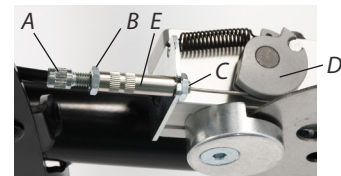
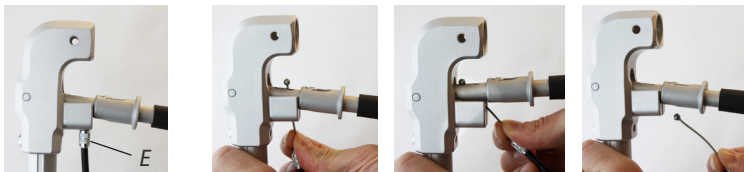
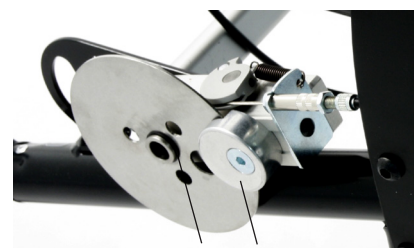
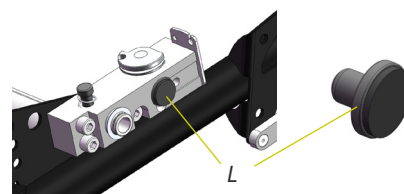

Fig 13
Fig 14
Fig 16
Fig 17
The disc brake system (fig 12) consists of a disc (fig 16) that attaches to the drive wheel. A caliper (J, fig 16) pushes against the disc when activated by a brake piston (L, fig 17). This is controlled by a lever (fig 14) via a cable that is attached to a turntable (D, fig 13) which moves the piston. The cable is of fixed length with nipple connections at both ends.
The brakes are adjusted by moving the cap (A, fig 13). Loosen the nut (B) and screw the sleeve out for more braking force, in for less braking force. Tighten the nut (B) after the adjustment. **NOTE!** Handle sleeve (E) with care! **NOTE!** The brakes must always be adjusted such that the braking force is correct with the braking levers in the parking position. Verify!
1. Remove the wheel and completely unscrew the wire length adjustment cap (A).
2. Remove the sleeve from the plate by unscrewing the nut (C) and threading it out of the slot.
3. Release the end of the wire from the turntable (D).
4. Unscrew the wire attachment (E) from the push bar and thread the end of the wire out of the braking lever as seen in figure 14.
1. Take off the wheel and unscrew the caliper (J, fig 16).
2. Remove the retaining ring (K) with correct pliers and remove disc. Note that there is a plastic washer between the disc and the wheel hub.
3. Now the brake piston (L, fig 17), disc, and caliper can be changed out for new parts.
4. Reassemble by reversing the above steps. Check the retaining ring (K, fig 16) and replace if damaged.